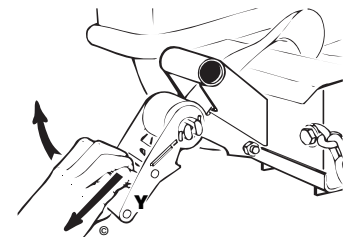

Figure 5
- Pull on the ratchet release and raise the handle as far up as you can; (Figure 5) then pull on the tire strap to unroll adequate slack from the spool. Lay the strap assembly to the outside of the ramp, next to the tow dolly fender.